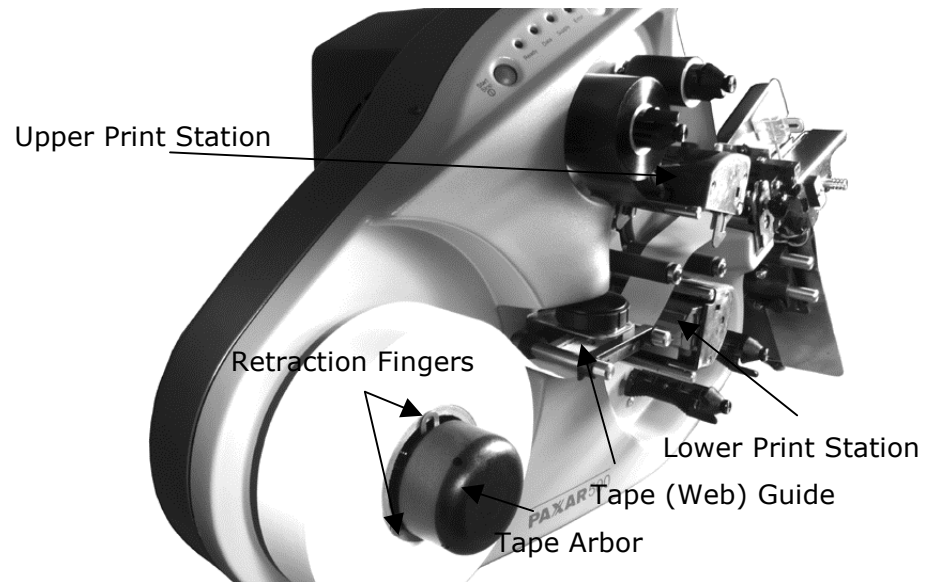

Figure 9. Tape Supply Through Print Stations
Before loading a roll of tape, you will need to be familiar with the following parts of the AVERY DENNISON SNAP 500 printer (Refer to Figures 9 and 10).
4. Slide the tape supply roll onto the Tape Arbor (see Figure 9).